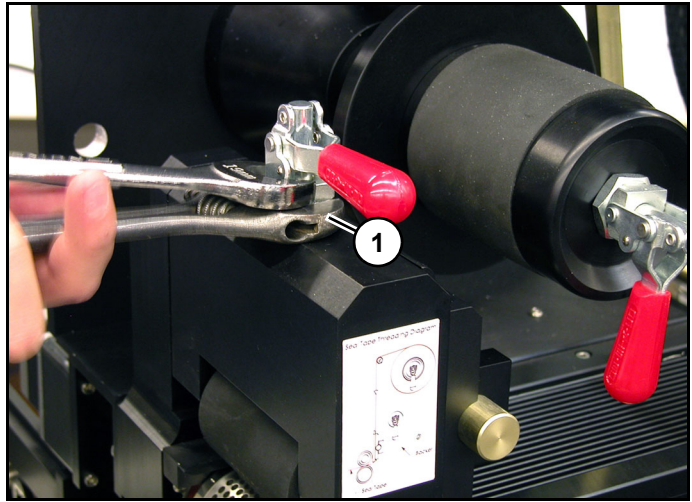

Figure 16
4. Using a 19mm wrench and crescent wrench, tighten jam nut (1) (*Figure 16*).